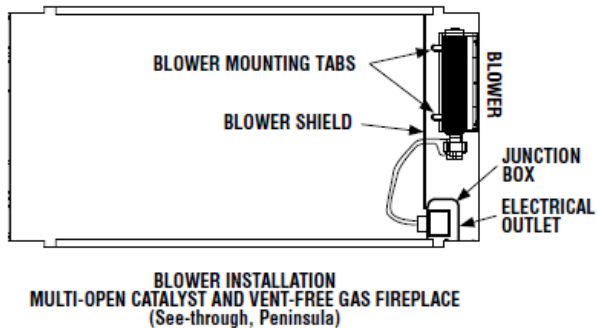

Figure 4
**Step 6. C-Gas Fireplaces – Multi-Open Vent Free Units** – Open all remaining bottom hinged panels. Remove the blower shield located across the inside right section of the unit (See **Figure 4**). Also refer to the installation instructions packaged with the fireplace for additional information on shield removal. Slide the blower assembly through the closest opening to the flue side of the cabinet base. Position the blower assembly so that the tabs (located on the cabinet base) are seated in the notches of the blower bracket. Bend the tabs over to secure the blower assembly. Reinstall the blower shield with the blower cord routed to the electrical outlet.